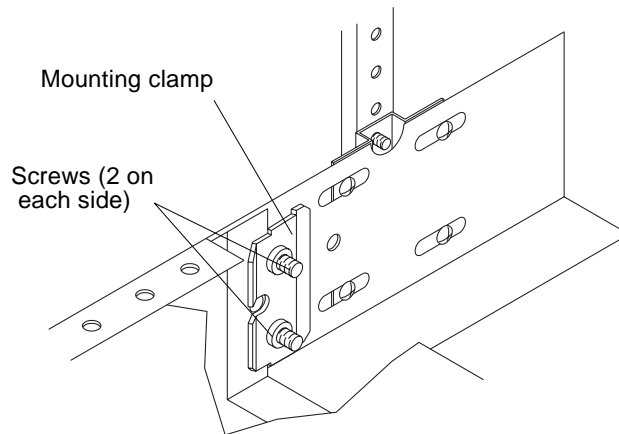

FIGURE 1-16 Tightening the Mounting Clamp
Do not tighten the screws on the mounting clamps (FIGURE 1-16 on page 20).
3. **Tighten the two screws in each mounting clamp, one on each side of the chassis (FIGURE 1-16).**